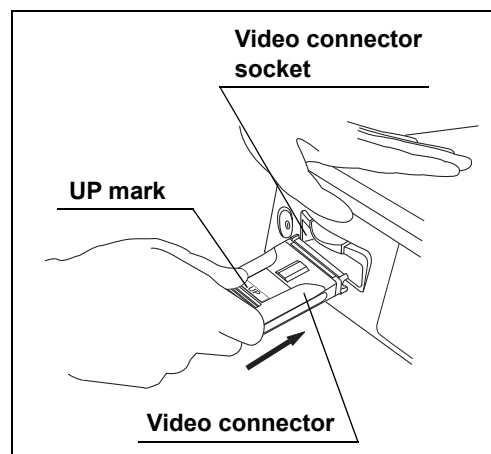

Figure 3.19
- 3 Make sure that the UP mark on the video connector is facing up. (See Figure 3.19)